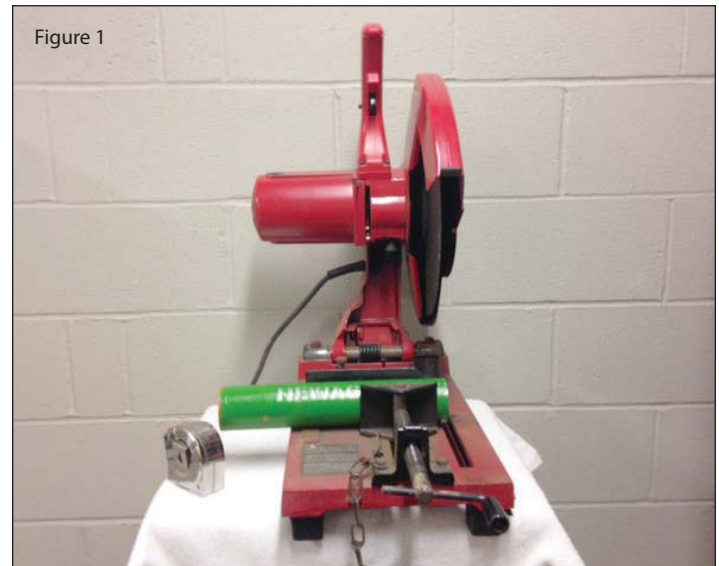

Figure 1
- 5.1. For a clean, square cut, a cut-off saw is the recommended cutting method. (Figure 1)